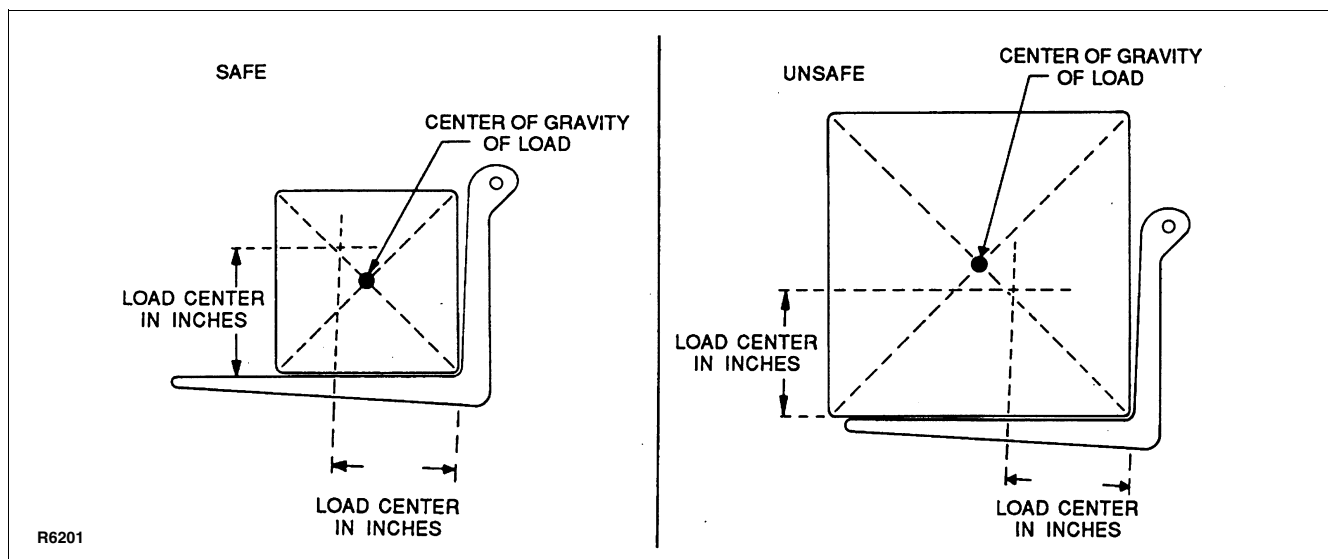

Figure 2-1 Load Center
5. Do not attempt to lift a load heavier than the rated capacity of the truck. Check that the center of gravity of the load is not beyond the load center listed on the name plate (Figure 1-1). See Figure 2-1 for an explanation of load center.